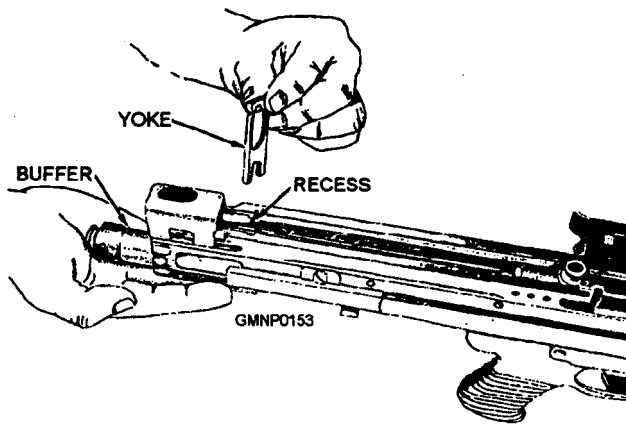
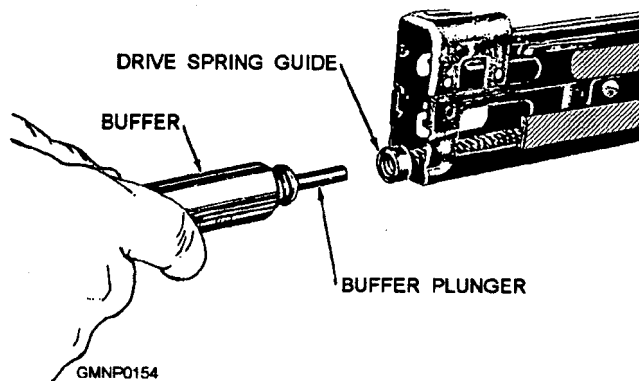
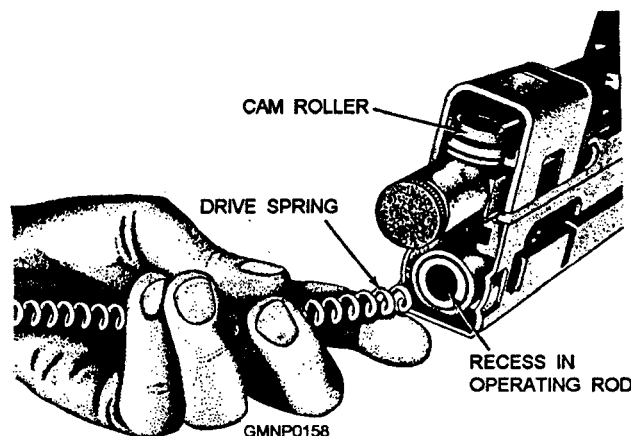

Figure 3-79.—Removing the buffer group.
Figure 3-80.—Separating the buffer from the drive spring guide.
Figure 3-84.—Inserting the drive spring.
the hand against the exposed buffer and press lightly. Remove the buffer yoke from the top of the receiver, as shown in figure 3-79. Withdraw the buffer slowly. Allow the drive spring to expand until the end of the drive spring guide is exposed at the rear of the receiver. Pull the buffer plunger from the drive spring guide (fig. 3-80).
bolt to rotate until the locking lugs are in the vertical position. With the cam roller up, push the operating rod and bolt into the receiver until the end of the operating rod is even with the rear of the receiver. Insert the drive spring guide into the drive spring; then insert the opposite end of the drive spring in the recess of the operating rod, as shown in figure 3-84. Pull the trigger and push in the drive spring until the head of the guide is approximately an inch from the receiver (fig. 3-80).
4. Insert the buffer plunger into the drive spring guide, as shown in figure 3-80. Push forward on the buffer until the operating rod and bolt go fully forward. Push in on the buffer until the recesses on the buffer are aligned with the recesses in the receiver. Replace the buffer yoke from the top of the receiver, as shown in figure 3-79.